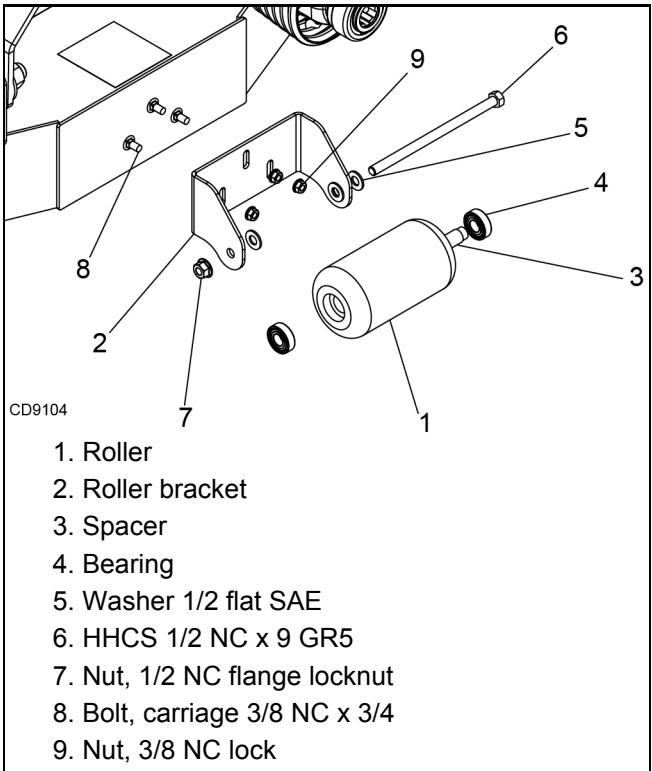

Figure 27. Front Roller Installation
1. Insert three carriage bolts (8) through the front mower frame from inside out.
2. Place roller bracket (2) over bolts; then install flange lock nuts (9) on bolts and tighten.
3. Place front roller (1), spacer (3), bearings (4), and washers (5) in roller bracket as shown in Figure 27.
4. Insert cap screw (6) through bracket and roller.
5. Secure with flanged lock nut (9). Do not over-tighten; roller must spin freely.